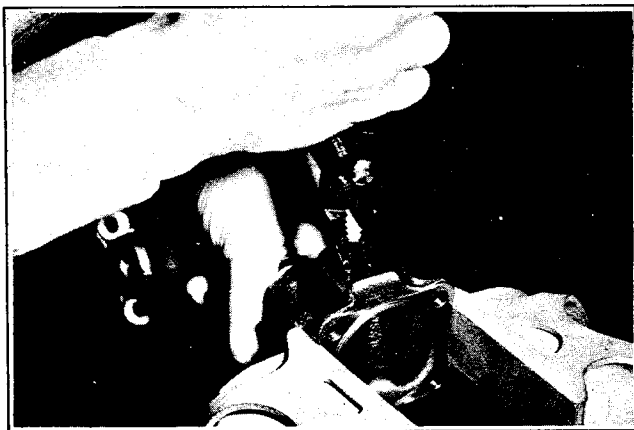

Figure 4D-40B. Removing Snap Ring
Remove snap ring (22) from flange yoke (21). Turn joint over and remove opposite snap ring. See Figure 4D-40B.